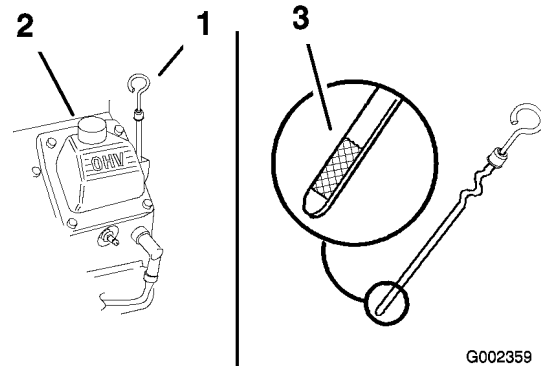

Figure 37
4. Clean around the oil dipstick (Figure 37) so that dirt cannot fall into the filler hole and damage the engine.
5. Unscrew the oil dipstick and wipe the end clean (Figure 37).
6. Slide the oil dipstick fully into the filler tube, but do not thread onto tube (Figure 37).
- Slowly pour approximately 80% of the specified oil into the filler tube (Figure 37).